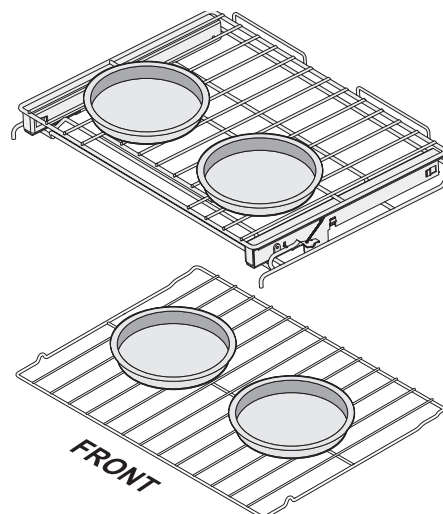

Fig. 17 Pans spaced for convection baking cakes on two racks.
- For baking cakes use the following rack positions and place bakeware as shown in Figure 17.